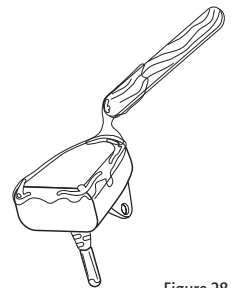

Figure 28
4. Coat the face of the transducer and the inside of the hull with epoxy (Figure 28).